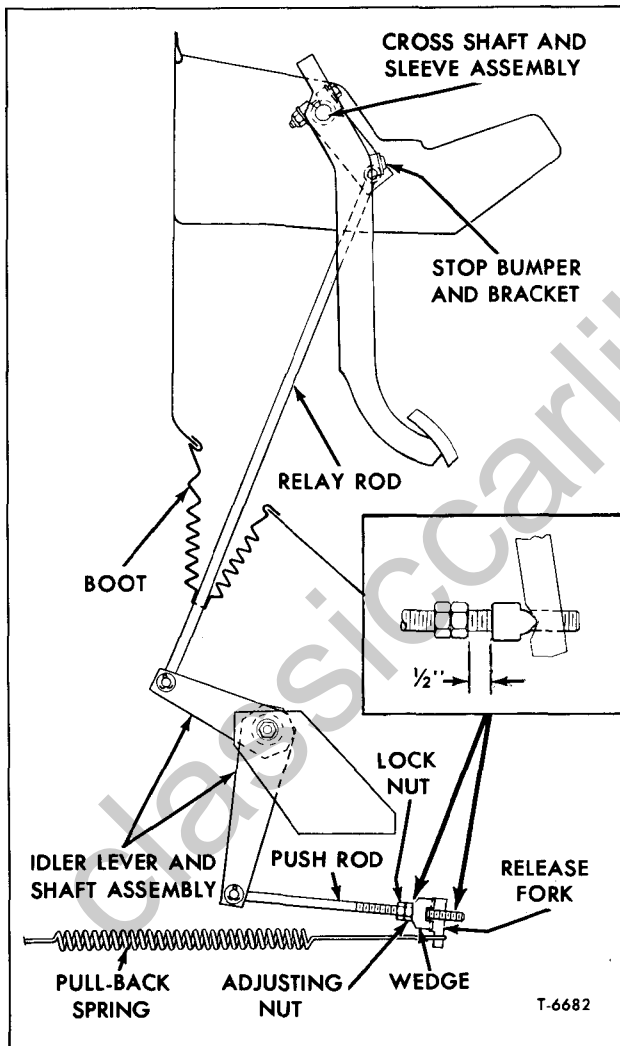

Figure 1—Mechanical Clutch Linkage (HM, JM 80)
(Refer to Fig. 1)
3. Referring to the Inset, Figure 1, loosen lock nut. Adjust clearance between wedge and adjusting nut to $\frac{1}{2}$ -inch. Then tighten lock nut so as to maintain the $\frac{1}{2}$ -inch clearance between wedge and adjusting nut.